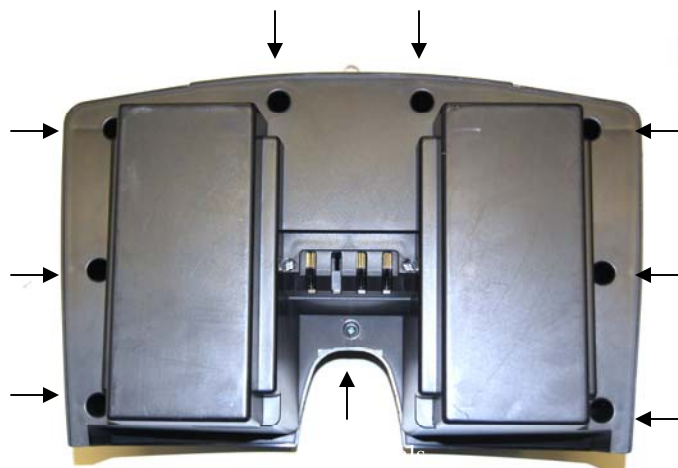

Figure 32. Battery Pack (bottom side)
5. Position the battery pack so that the screw heads are facing up. **See figure 32.**
6. Remove the (9) screws that fasten the battery pack together. **See figure 32.**